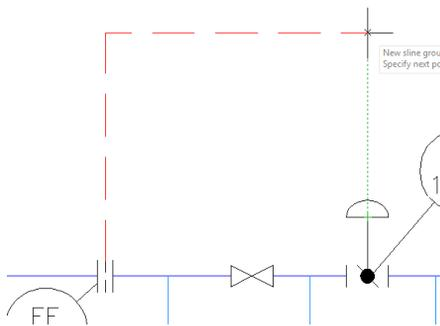

Figure 2-72 Snapping to the midpoint of the control valve
7. Move the cursor toward right and click when the cursor snaps to the mid point of the control valve, as shown in Figure 2-72.